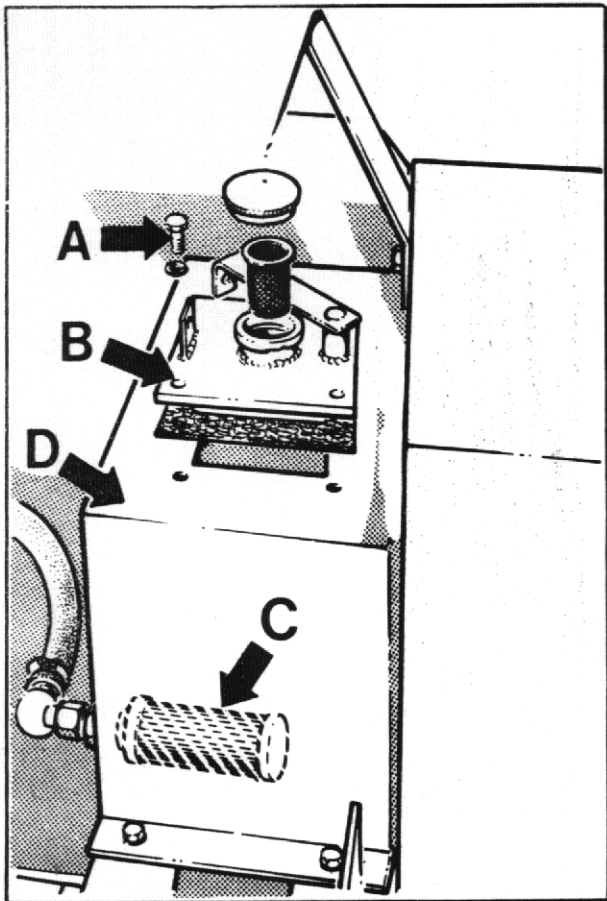
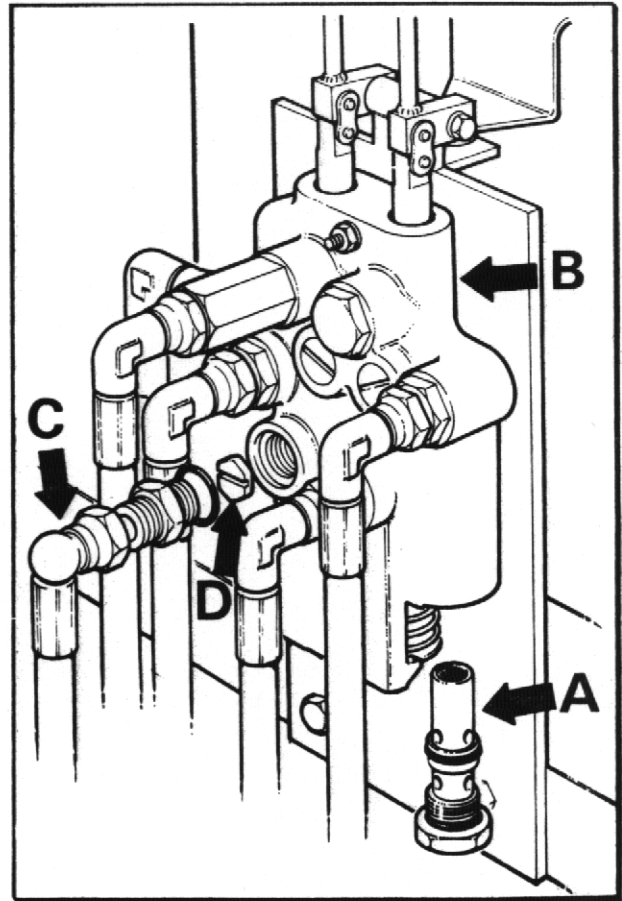

FIG.6
FIG.7
2. Check that hydraulic filter is not blocked (See Fig. 6).
- a) Remove the four setscrews (A) that secure the filler cap assembly (B) and remove assembly.
- b) Unscrew suction filter (C) from inside tank (D) and wash in white spirit. Dry with moisture-free compressed air.
4. Remove relief valve cartridge (A) (hexagon head) from the bottom of the control valve (B) (See Fig. 7) and replace with a new one.
5. Remove hose adaptor (C) from control valve (See Fig. 7), remove hexagonal orifice plate (D) and wash in white spirit. Dry using moisture-free compressed air. DO NOT poke wire etc., into the orifice. Re-fit plate and hose adaptor with slot of orifice plate facing outwards.